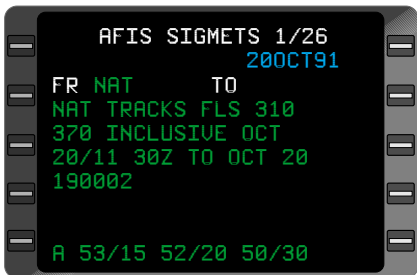

Figure 7-132
*NOTE: When an updated SIGMET is received it replaces all previous SIGMETS. If **NAT** is entered as **FR** option, a North Atlantic Tracks update is sent. (Figure 7-132)*